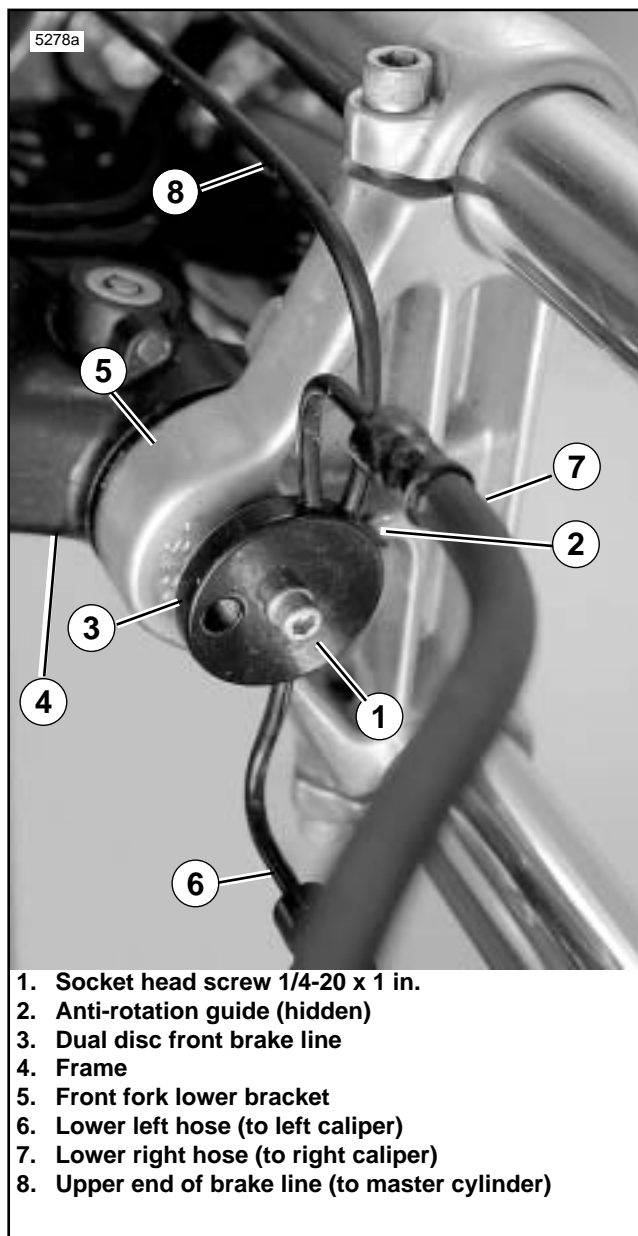

Figure 7. New Dual Disc Front Brake Line
4. See Figure 7 and Service Parts Illustration. Insert new 1/4 - 20 x 1 in. hex socket head screw (1) from kit through central mounting hole in manifold section of new front brake line (specified in NOTE of GENERAL Section) and anti-rotation guide (16). Install assembly of screw, anti-rotation guide, and brake line onto underside of front fork lower bracket (3). Make certain forked end of anti-rotation guide engages center rib of front fork lower bracket.